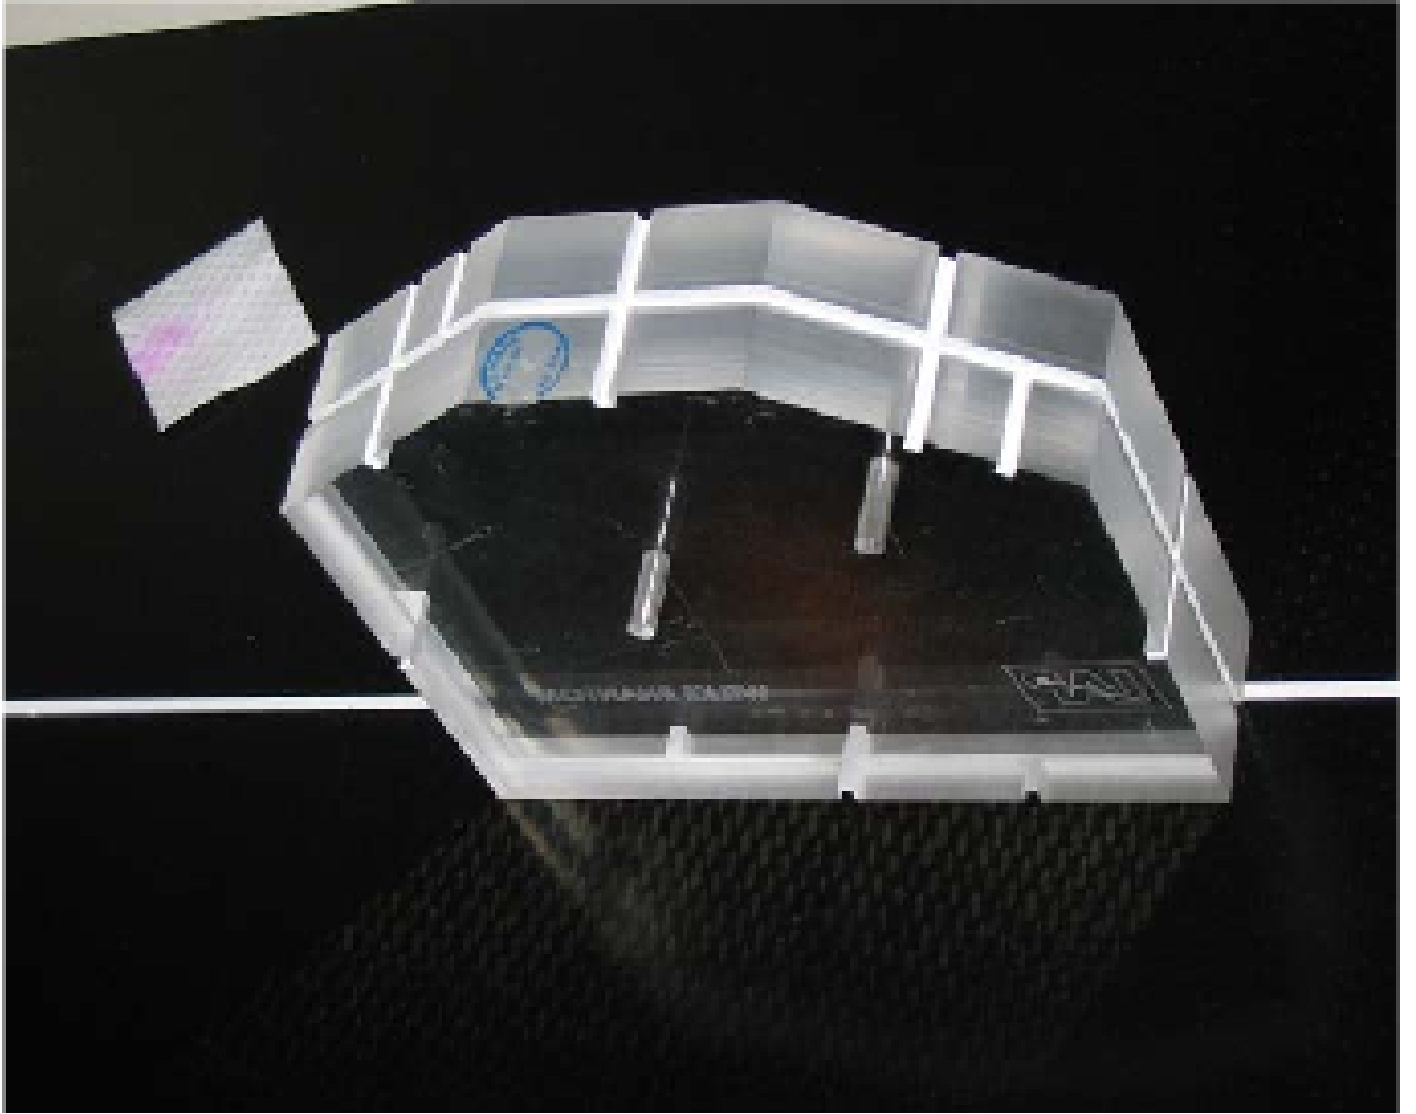

Figure 5: The Wilke phantom for laser alignment.
- Place the Willke phantom (Fig. 5 and its platform on the CT table and level it using a bubble level.